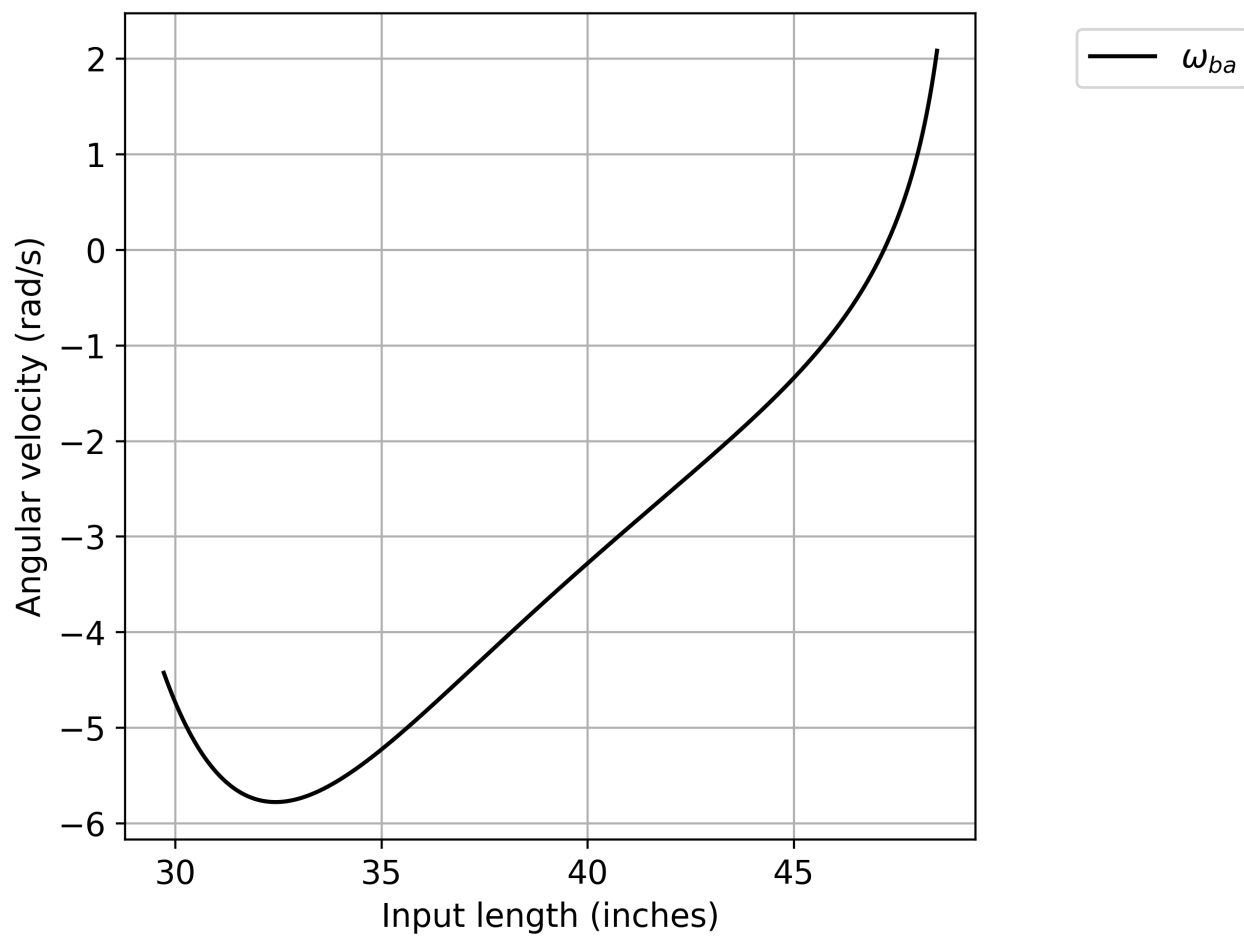
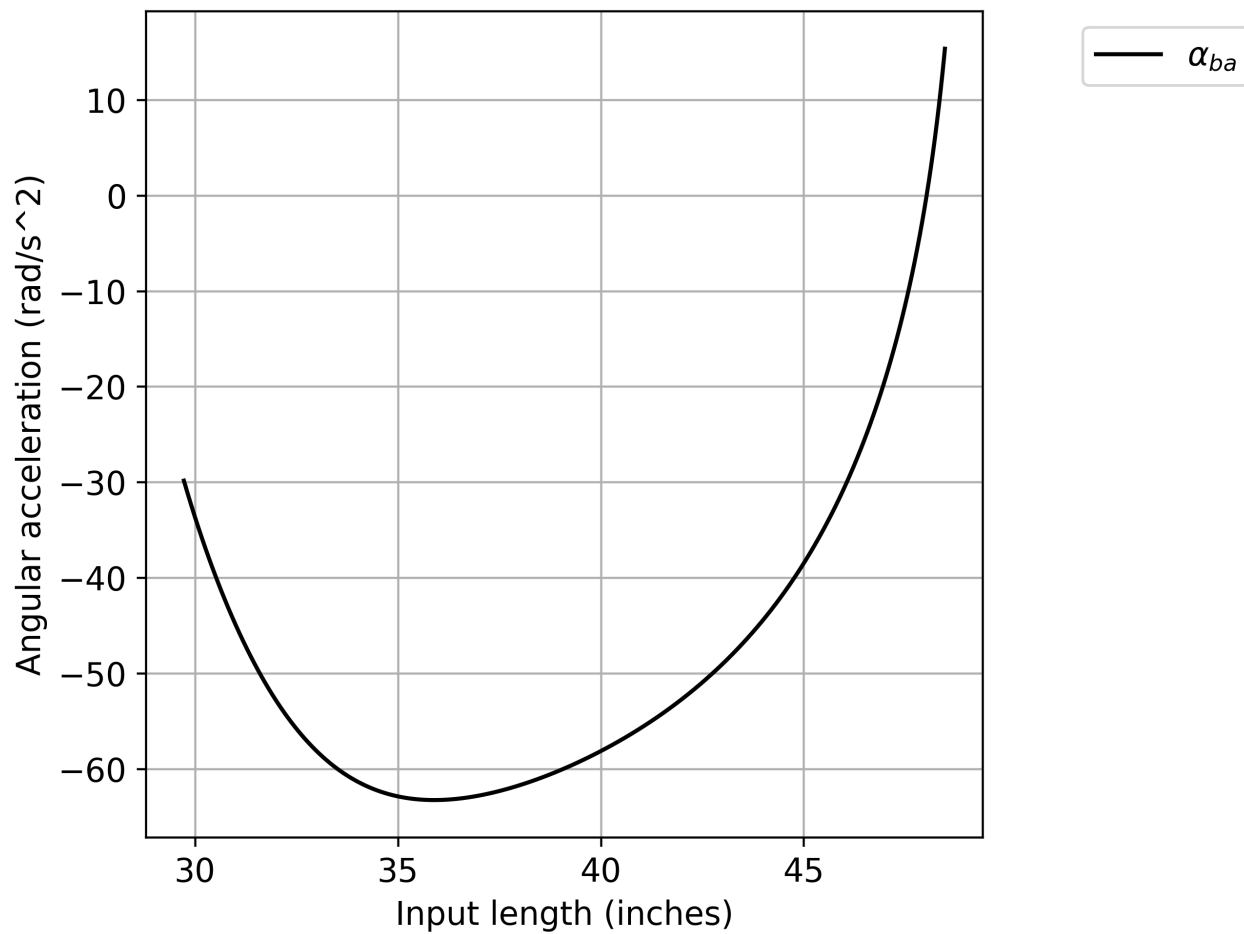

Figure 6: Angular velocity of Link BA vs the input length
Figure 7: Angular acceleration of Link BA vs the input length
Next, I took the list of angles for each input length and used these angles and the previously measured link lengths in eqs. (11) to (22) to solve for angular velocity and angular acceleration of each point. The angular velocity and acceleration of Link BA is plotted in Figure 6 and Figure 7.